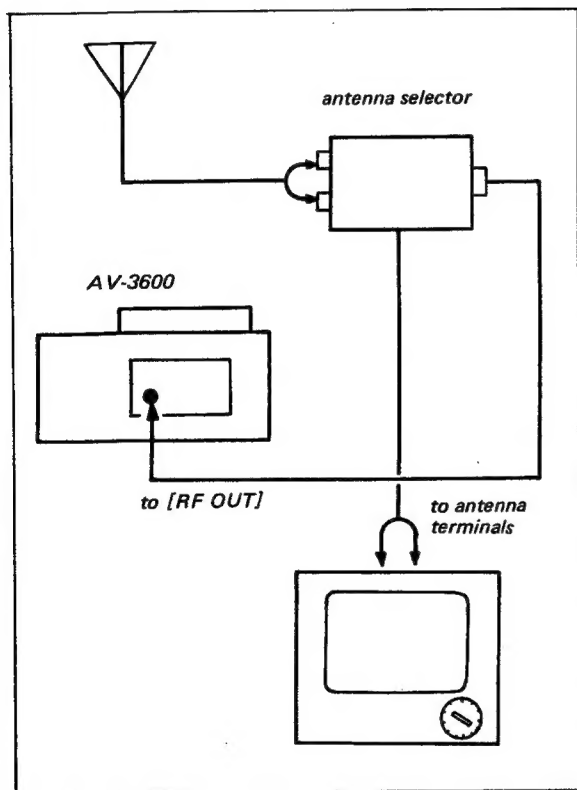

Fig. 1-1. RF Unit connections
2. Insert the RF Unit (RFU-53W or 54W whichever channel is inactive in your area) into the compartment and connect the Videocorder, Antenna Selector and TV receiver as shown in Fig. 1-1.